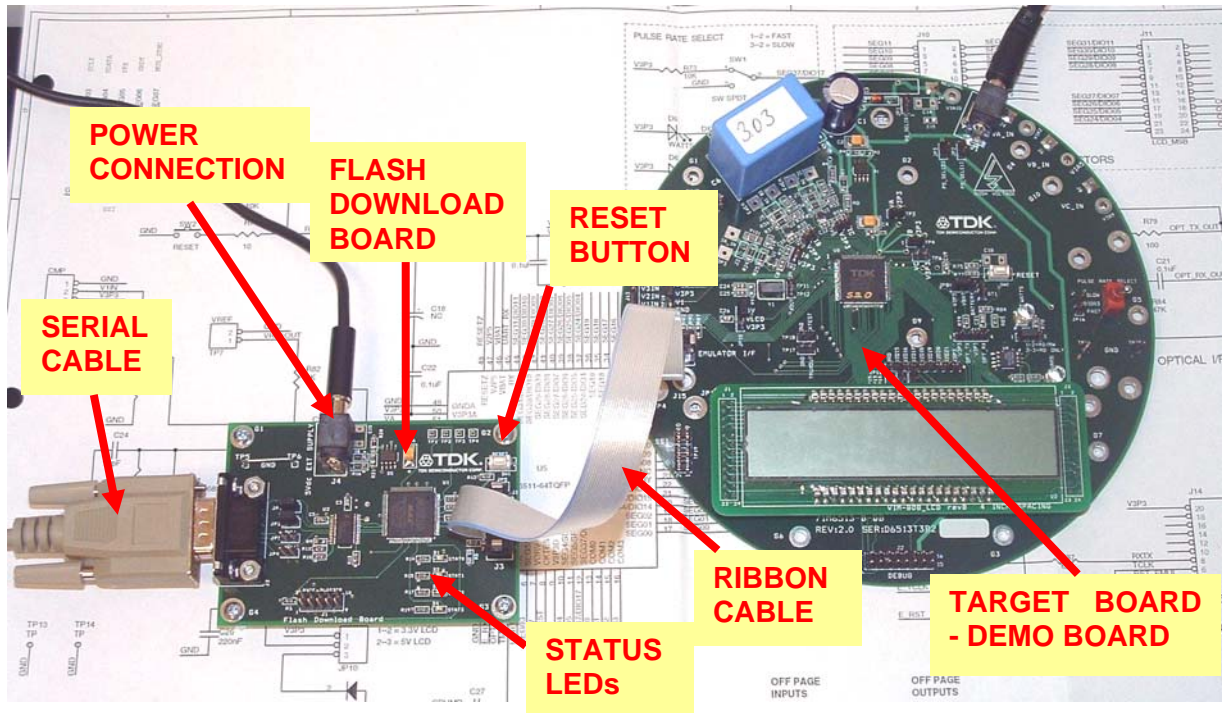

Figure 1-1: TDK Flash Download Board: Basic Connections
Figure 1-1 shows the basic connections of the Download Board with the Demo Board (or target board) and the external equipment.
A Demo Board with a Flash Download Board connected is shown in figure 1-1. The Flash Download Board interfaces to a PC through a 9-pin serial cable. The Flash Download Board interfaces to the Demo Board or to the target board containing the 651X IC with a flat ribbon cable.
- 2) Connect the serial cable provided with the Flash Download Board kit between a vacant COM port on the host computer (DB-9 connector) and connector J2 on the Flash Download Board (see Figure 1-1).